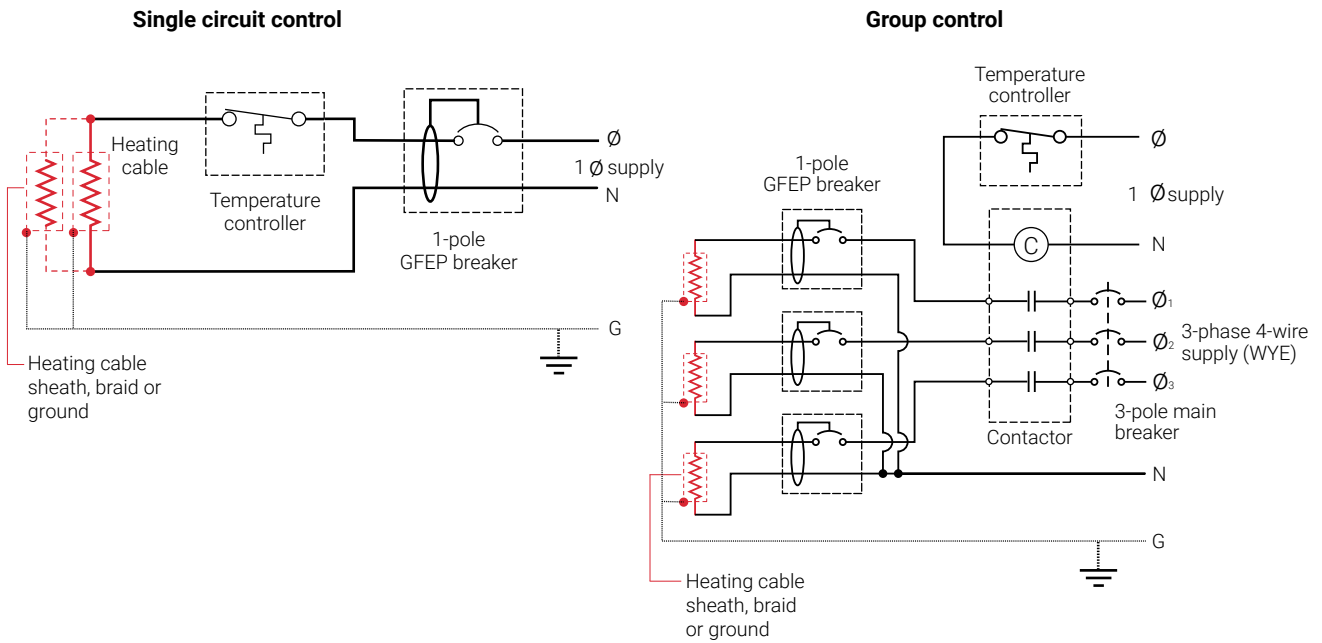
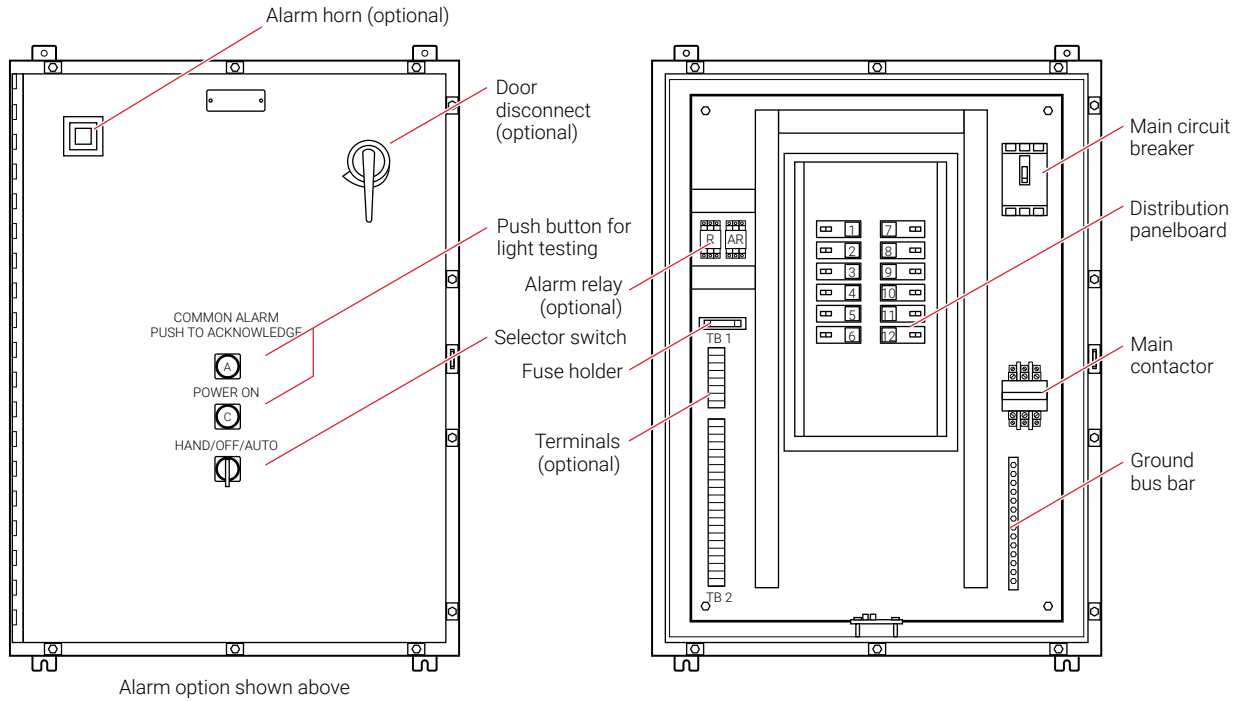

Fig. 9 Single circuit and group control
Fig. 10 HTPG power distribution panel
- Hairpin and straight layouts have one junction box per conduit end (see Fig. 9 and Fig. 10).